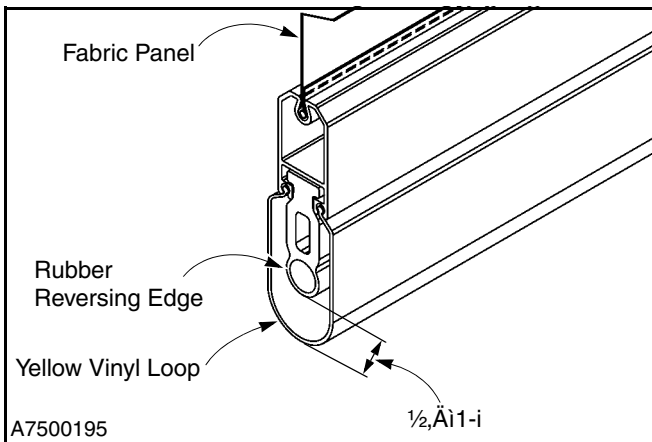

Figure 15
1. With the door in the closed position, check the yellow vinyl loop on the bottom bar. It should be in the position shown in Figure 15.
Damage to the rubber reversing edge or other bottom bar parts can occur if the door seal is allowed to seal too tightly against the floor. (See Figure 15.)